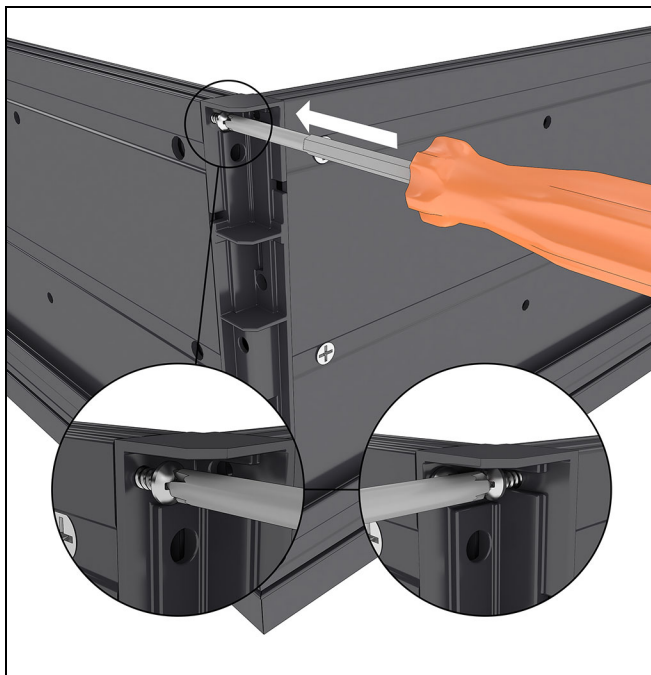

Figure 26
8. Use a #1 Phillips head hand screwdriver to drive two (2) #4 x 1/2" screws into the corner key in the areas noted in Figure 26.